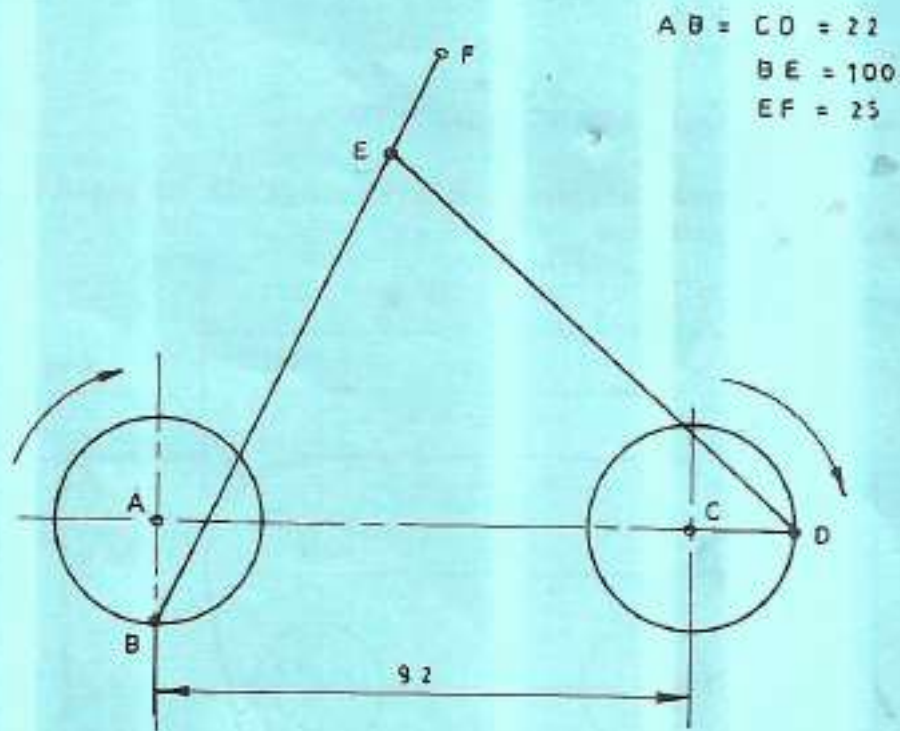

Fig. 3
3. Figure 3 shows a pin-jointed mechanism. The cranks AB and CD revolve about A and C respectively at the same speed. Draw the loci of the points E and F for a complete revolution of crank AB. (15 marks)